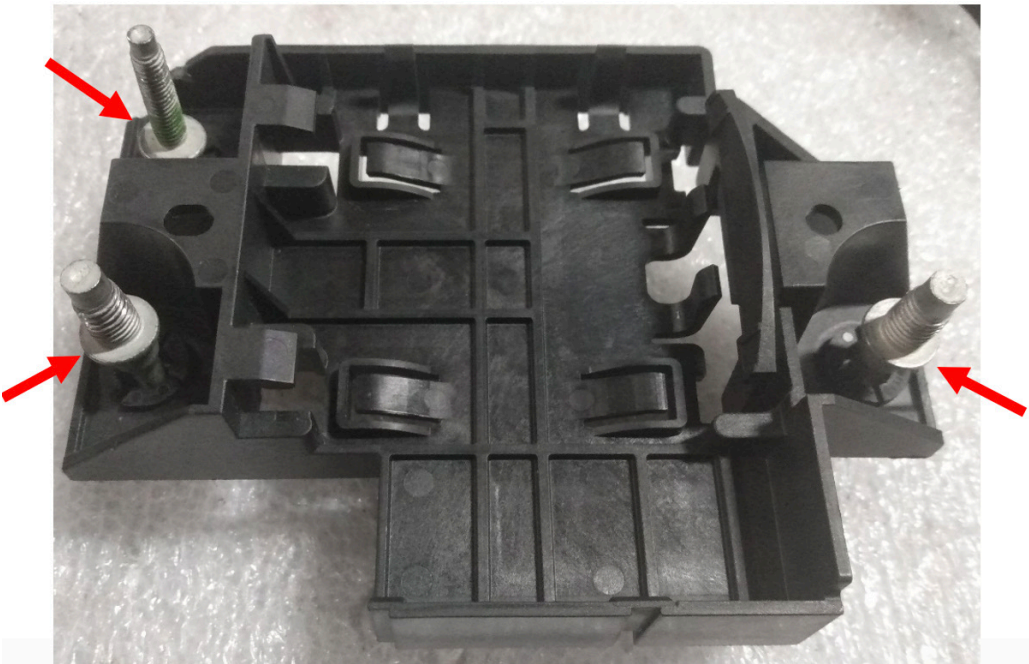

Figure 16
16. Reinstall the mounting studs, sockets, and locking nuts on the opposite side of the ACC mounting bracket by reversing the steps used to remove them. Figure 16